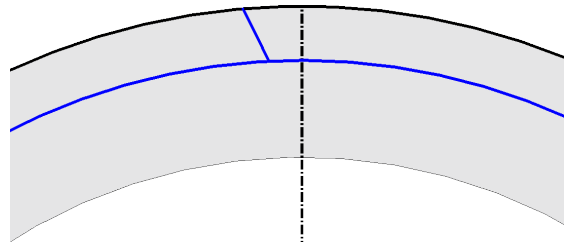

Fig. 12
Step 9. Click **Line**  (L) on the Sketch toolbar.
Step 10. Sketch a **line from outside edge at angle to circle**, **Fig. 12**.